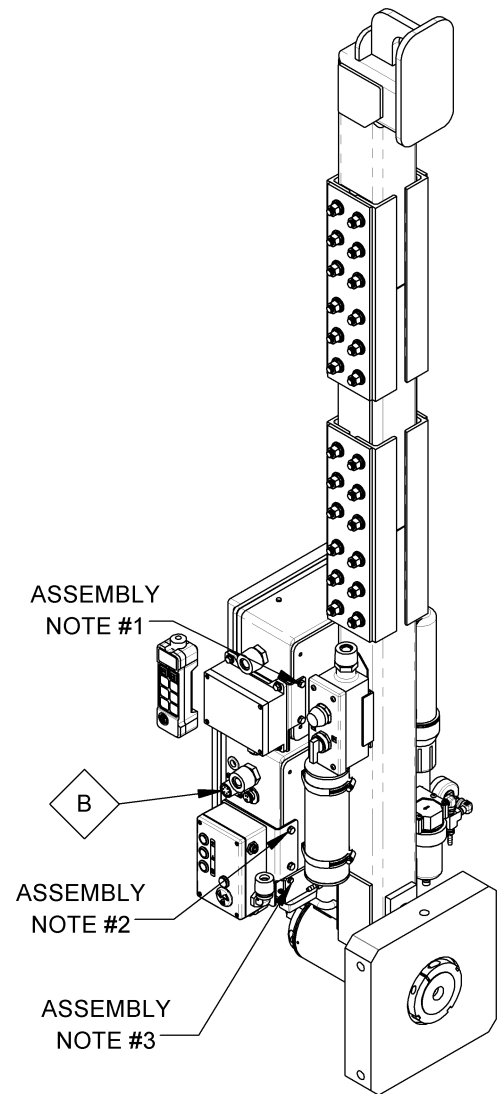

Figure 1
- 1) Mount the radio receiver by its mounting bracket using a 7/16" wrench and fasteners supplied, as indicated in Figures 1 and 2.
- 2) Mount the control enclosure assembly by its mounting bracket using a 7/16" wrench and fasteners supplied, as indicated in Figures 1 and 2.
- 3) Mount the strobe light by its mounting bracket using a 5/16" wrench and the 10-16 x 1/2" self-tapping screws supplied, as indicated in Figures 1 and 2.
- 6) Connect the electrical connector between the control enclosure assembly and the appropriate receptacle on the power system enclosure, as indicated by Tags B in Figures 1 and 2.